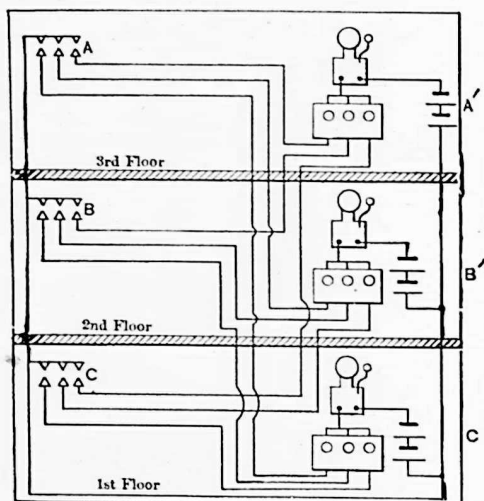

FIG. 196. Fire-alarm system. Three gongs and three stations.
**117. Fire-alarm Systems.** There are many systems for sending in fire alarms. They are all, however, arranged to sound continuous-ringing gongs at several places in the building, and most of them have an annunciator attachment showing the place from which the alarm was sent in. For simplicity, a system having but three gongs and three sending stations is shown in Fig. 196.